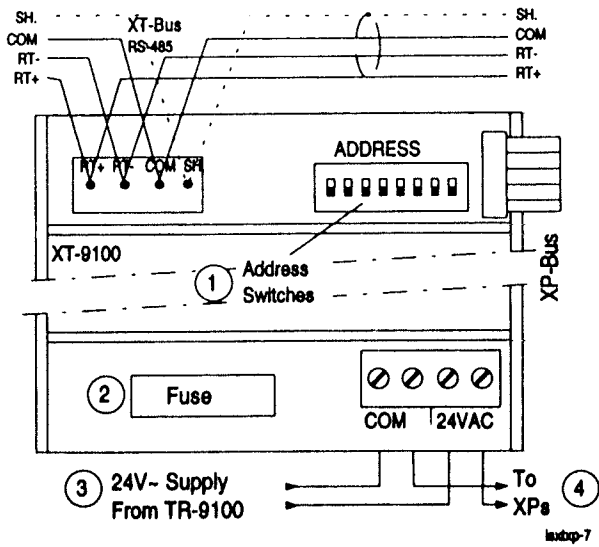

Figure 7: XT-9100
1. Terminations are made via the terminal blocks on the upper and lower parts of the modules that accept 1 x 1.5 mm²/16 AWG cable. See figures 7 to 13 for details.